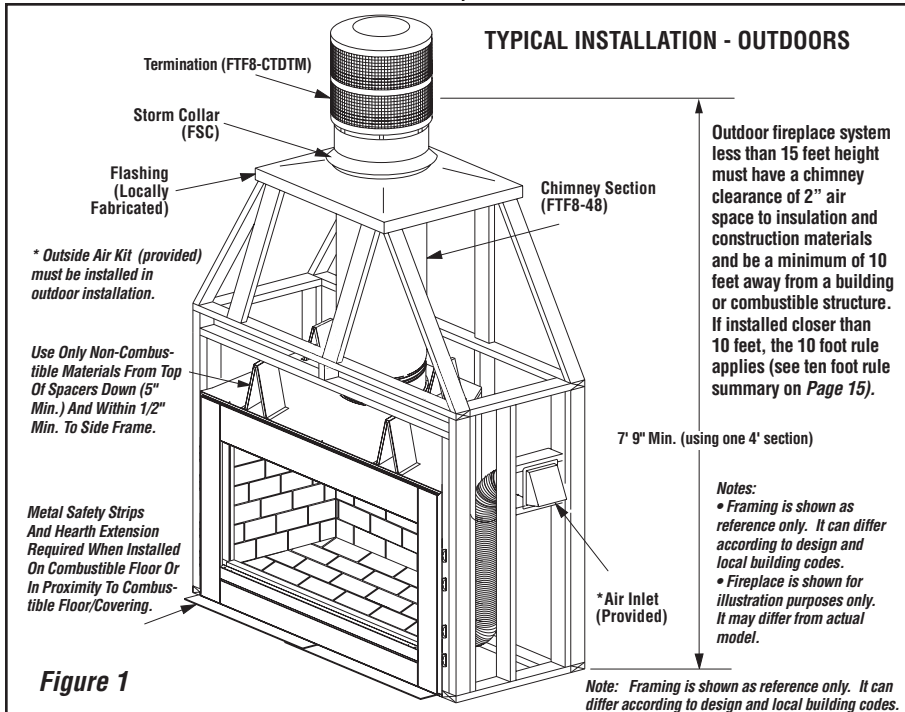

Figure 1
- The system height may be reduced to a single length of FTF8-48 pipe and termination with the FTF8-CTDTM for a minimum height on a complete system of 7' 9". The fireplace must be installed as a Freestanding system and located a minimum of 10' away from any building or structure (refer to **Figure 1**).
- Only non-combustible materials are allowed on the front face (Front Fireplace Frame) and around the perimeter within 5" (full length of top spacers) on the top and 1/2" on the sides (see **Figures 1, 51 & 52**).
Study the illustration of the installation, **Figures 1 & 2**, to get a general idea of each element of your fireplace system.